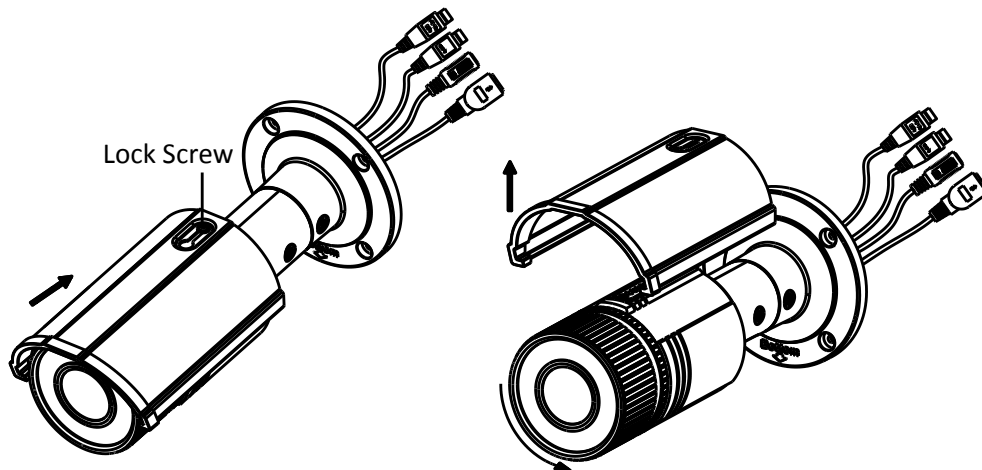

Figure 4-25 Disassemble the Camera
1. Loosen the lock screw on the sun shield to slide the sun shield according to the arrow direction as shown in Figure 4-25 (left).
2. Remove the sun shield according to the arrow direction as shown in Figure 4-25 (right).
3. Remove the front cover by rotating it counterclockwise as shown in Figure 4-25 (right).